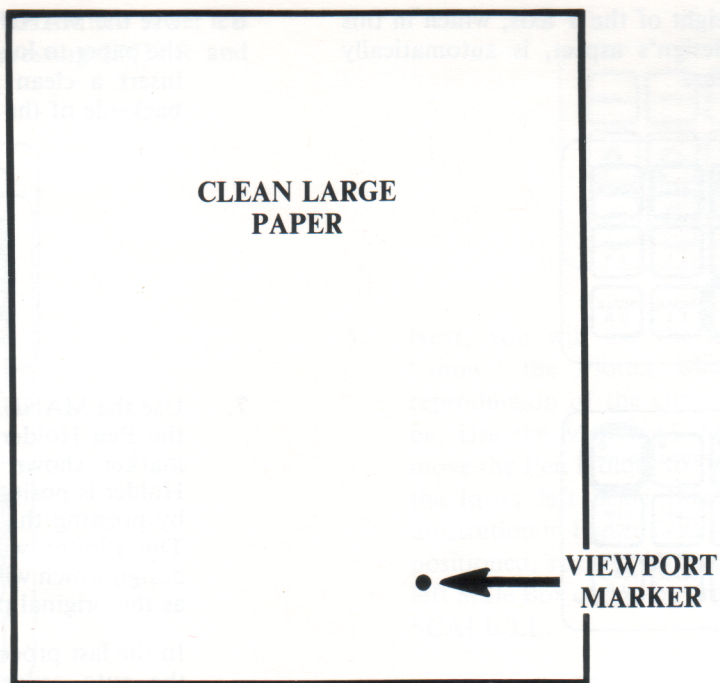

FIGURE 2-13
- Use the MANUAL MOVEMENT KEYS to move the Pen Holder to the location of the Viewport marker shown in Figure 2-13. After the Pen Holder is positioned, initiate the Self-Test routine by pressing the ↑ and ↓ buttons simultaneously. The Plotter will draw a large-scale line graph design which will have identical aspect dimensions as the original plot.